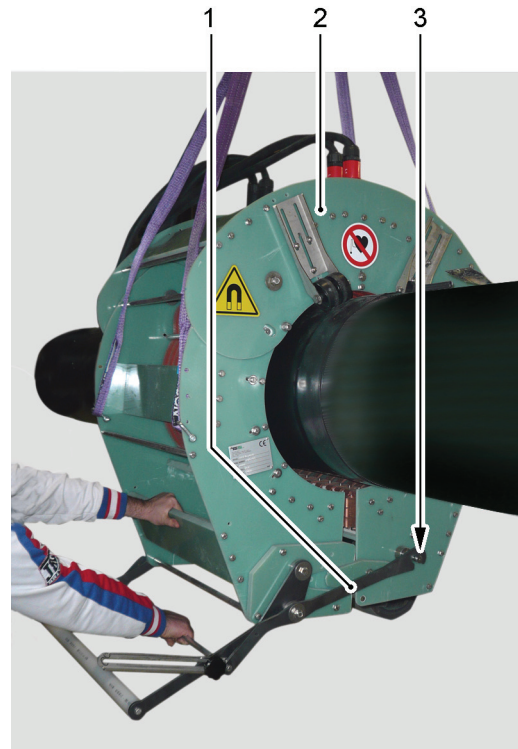

Figure 6.24 - Hooking of the hook levers to the pins
- 6) Get the two hook levers (see Figure 6.24/1) hooked to the pins (3), situated on the clamp coil (2).